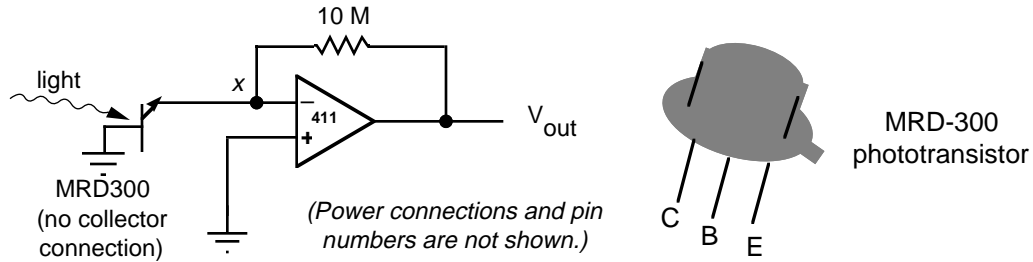

Fig. 9.1
a) Connect the MRD-300 as a photodiode and use a $10\text{ M}\Omega$ feedback resistor as in Fig 9.1. If the output voltage is too large, reduce the resistor to $1\text{ M}\Omega$. If you see fuzz on the output try a $0.001\text{ }\mu\text{F}$ capacitor across the feedback resistor. (How does this capacitor affect the feedback at high frequencies?) Connecting the output of the op amp to the scope, you should see the modulations from the lab's fluorescent lights. What is the photocurrent produced by the MRD-300? Cover the phototransistor with you hand to make sure it's the lights you are seeing. Look at the summing junction, X, with the scope as V_{out} varies. Why is it better to use this op amp rather than just a $10\text{ M}\Omega$ resistor?